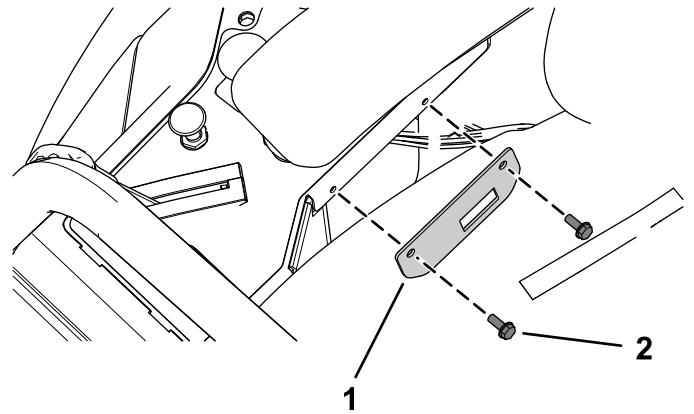

Figure 7
1. Install the light switch bracket using the 2 self-tapping screws (#10 x 1/2 inch) as shown in Figure 7.